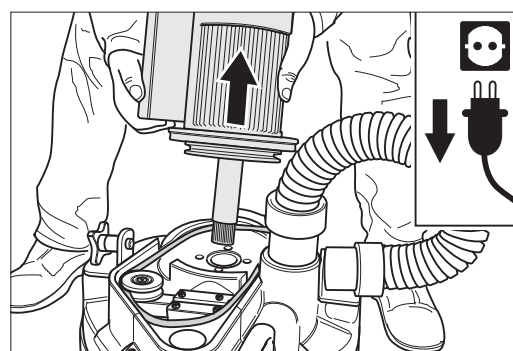

Fig. 48 Lift the motor off the machine casing vertically and remove the V-belt.
- 12 Loosen the four screws which fix the motor to machine casing and lift the motor off, keeping it in a vertical position. The V-belt can now be removed (Fig. 48).